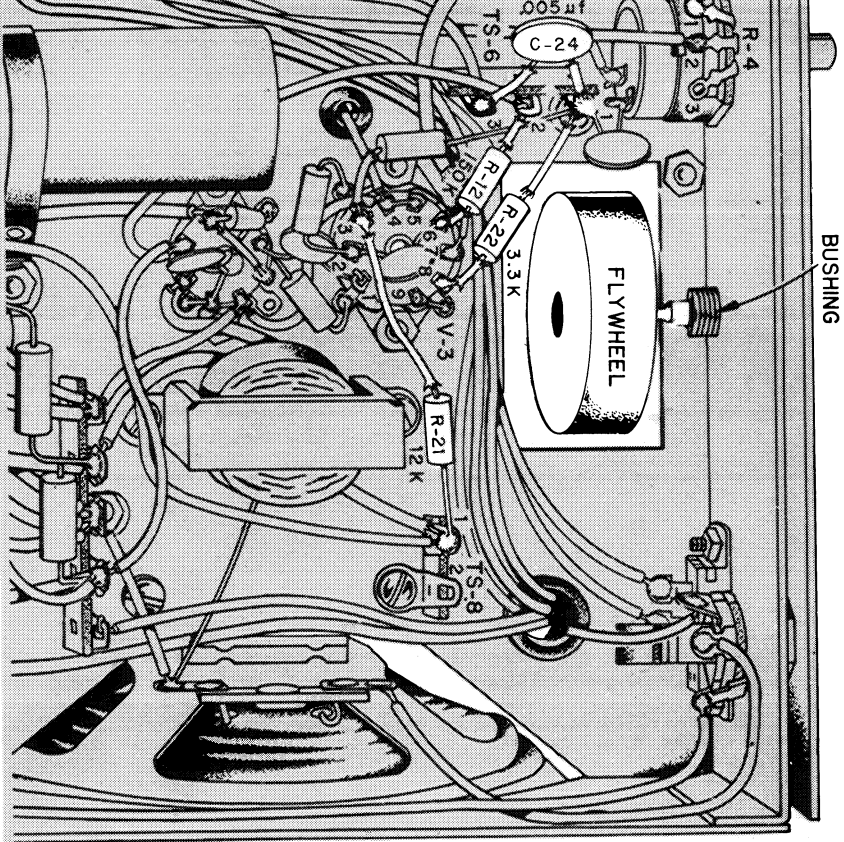

FIGURE 15. FLYWHEEL ASSEMBLY
- ☒ Flywheel and tuning shaft. Insert the tuning shaft into the bushing as shown in Figure 15. Fasten in place by crimping a "C" ring on the front panel side of the bushing. Fasten the flywheel in place by tightening with a setscrew. Crimp the other "C" ring as shown inside the chassis.